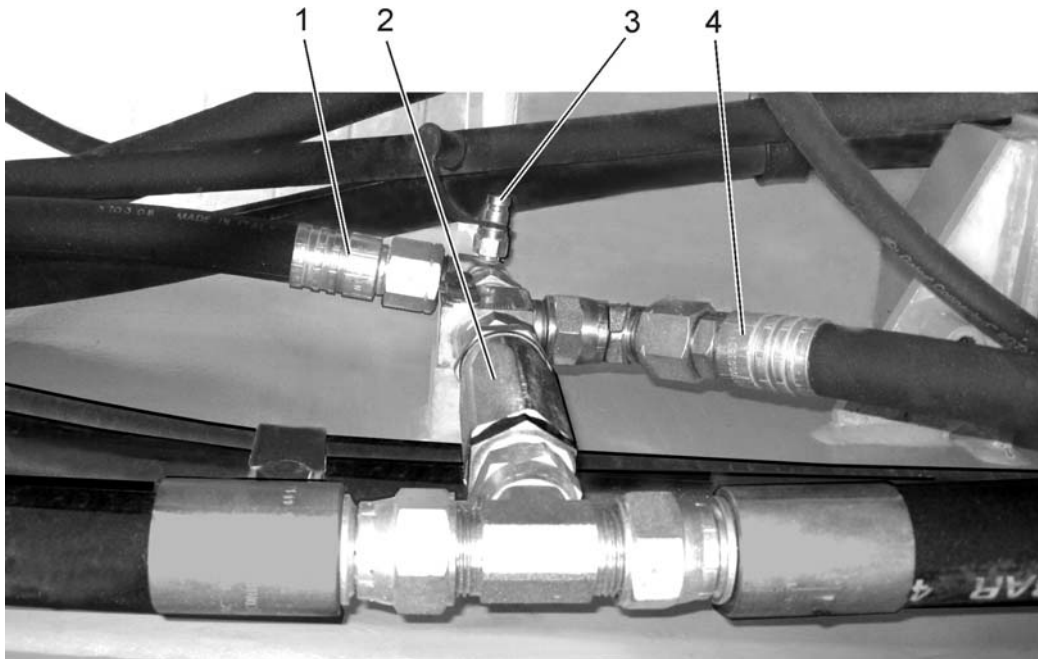

Fig. 10.11. Fan Drive System Pressure Check Connect Port (L.H. Side View)
1. Open the L.H. side door of engine compartment from left side and connect an 40 [MPa] gauge with quick coupler (see SERVICE /SPECIAL TOLS in this Section) to the quick disconnect fitting (3, Fig. 10.11).